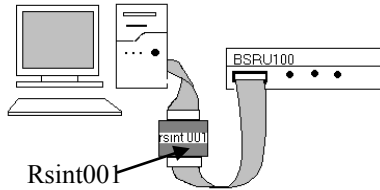

Figure 3: BSR100™ PC Connection Configuration
Using KP's GUP5000™ Utility Program, the BSR100™ parameter values listed below can be programmed or modified. An RSINT001 adapter connects between BSR100 and a PC (see Figure 3).
1. Connect BSR100™ to a PC using the RSINT001 adapter (see Figure 3).